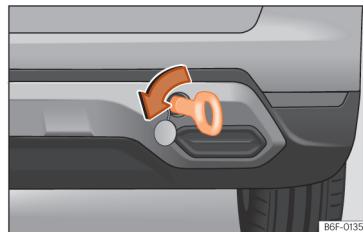

Fig. 166 Right side of the rear bumper: towline anchorage screwed in.
- Screw the towing eye in the housing by turning it to the maximum **anticlockwise** >>> Fig. 166 , >>> page 259. Use a suitable object that can completely and securely tighten the towing eye in its housing.